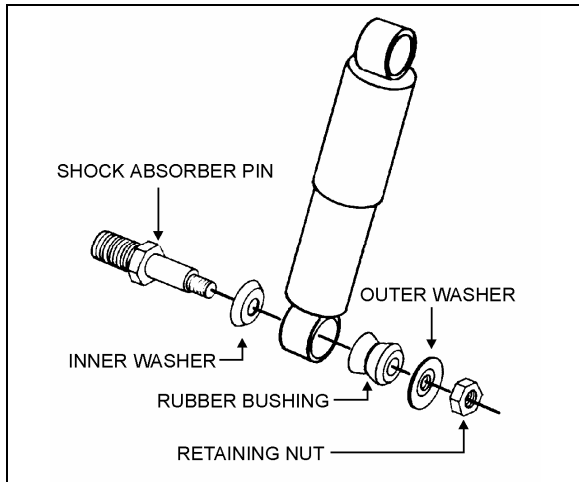

FIGURE 5: SHOCK ABSORBER 16008
1. Remove nuts and washers from shock absorbers on upper and lower mounting pins, taking care to identify the inner and outer washers to ease reinstallation. Refer to figure 5 for details.